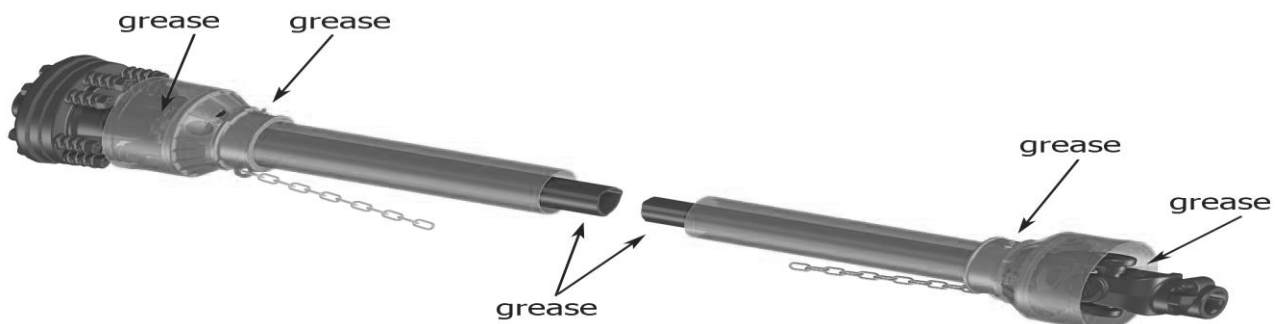

Figure 19
Grease the crosses, sliding parts of protective shielding, and driveshaft transmission tubes every eight (8) hours of operation using SAE Multi-Purpose Lithium-Type grease or equivalent. See Figure 19.